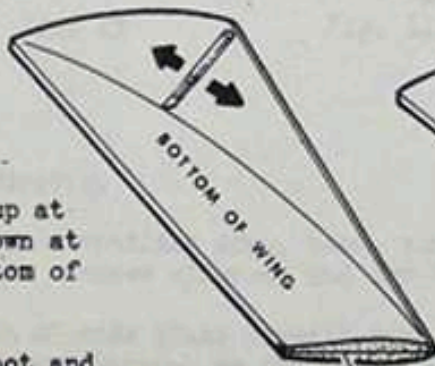

Fig. 8
A. If leading edge is warped down at tip (or trailing edge is up at tip), slit sheeting on bottom of wing as in figure 8.